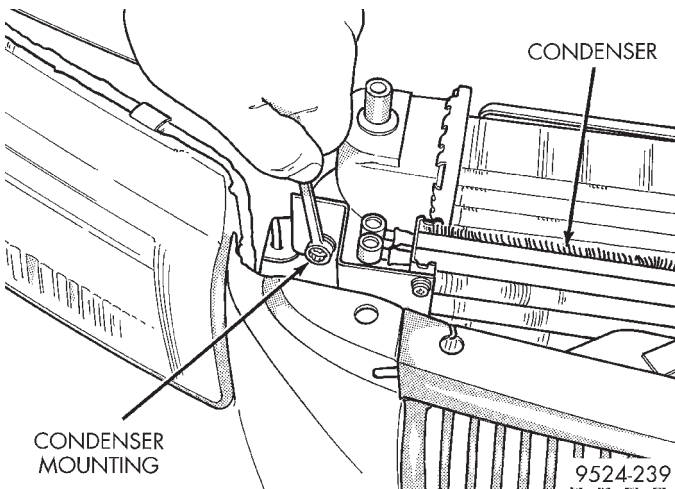

**Fig. 27 Condenser Mounting**
- (7) Remove condenser line support bracket.
- (8) Remove condenser mounting bolts (Fig. 27).